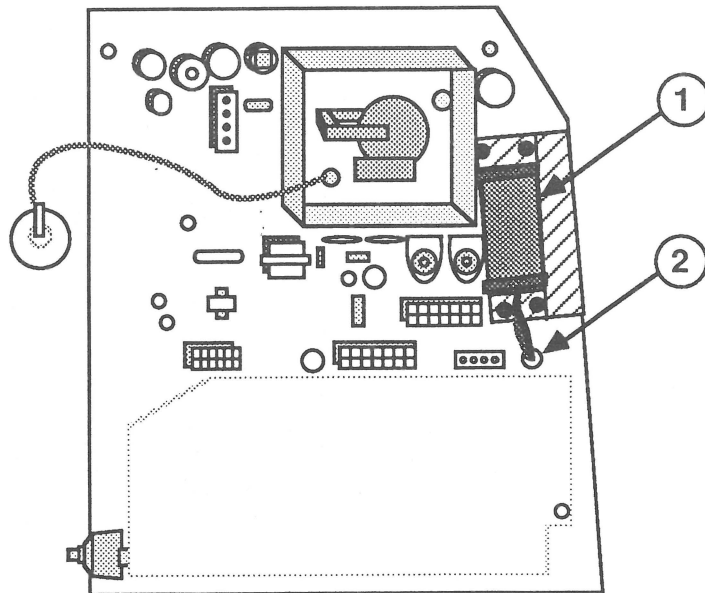

FIGURE 39
1. Orient the new (axial) fan assembly (Figure 39, #1) so that the holes in the bracket match the screw holes on the analog board.
3. Route the two fan wires through the hole below the fan on the analog board (Figure 39, #2).
6. Replace the fish paper by reinstalling the arrow clips. (Do not put an arrow clip in the hole shown in Figure 39, #2.)